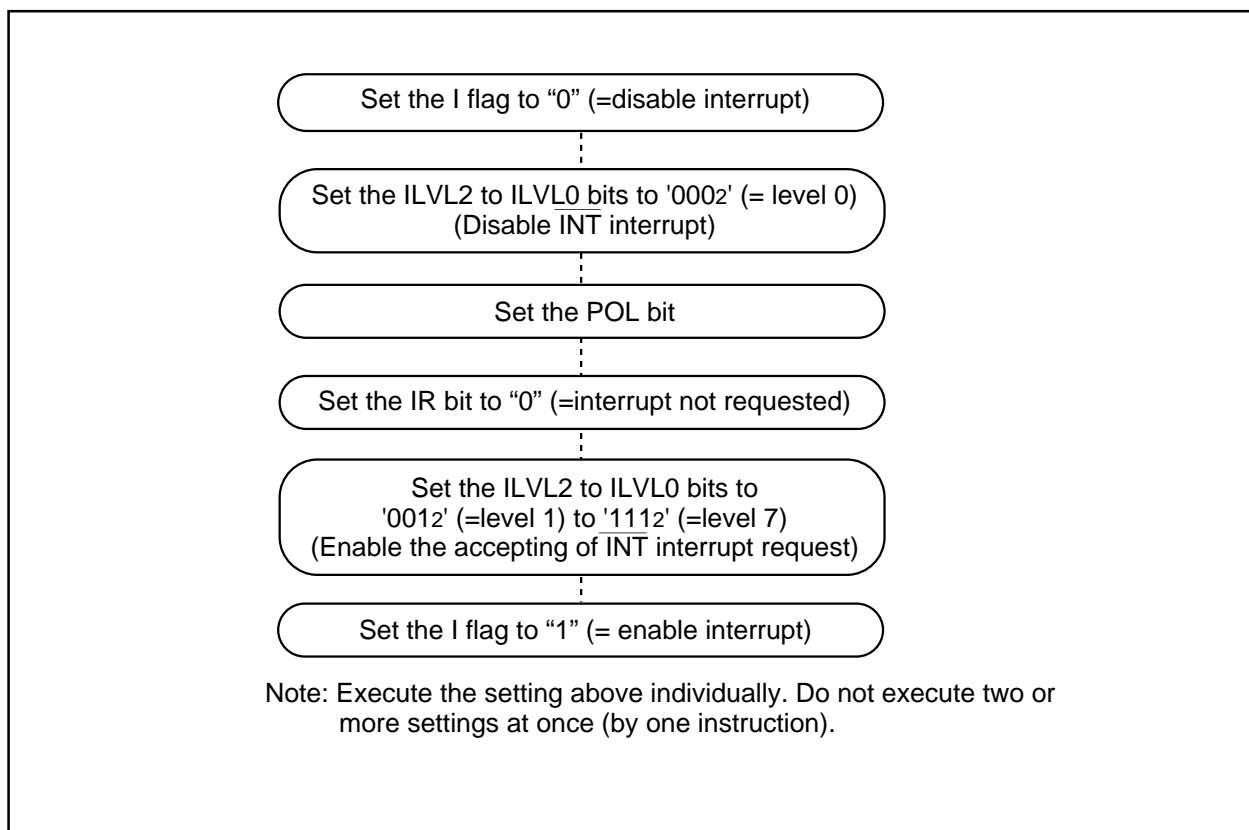

Figure 1.1.1. Procedure for Changing the $\overline{\text{INT}}$ Interrupt Generate Factor
2. When the polarity of the $\overline{\text{INT}}_0$ to $\overline{\text{INT}}_5$ pins is changed or the interrupt request cause of the software interrupt numbers 8 to 9 is changed, the IR bit is sometimes set to “1” (interrupt request). After these changes were made, set the interrupt request bit to “0” (no interrupt request). Figure 1.1.1 shows the procedure for changing the $\overline{\text{INT}}$ interrupt generate factor.